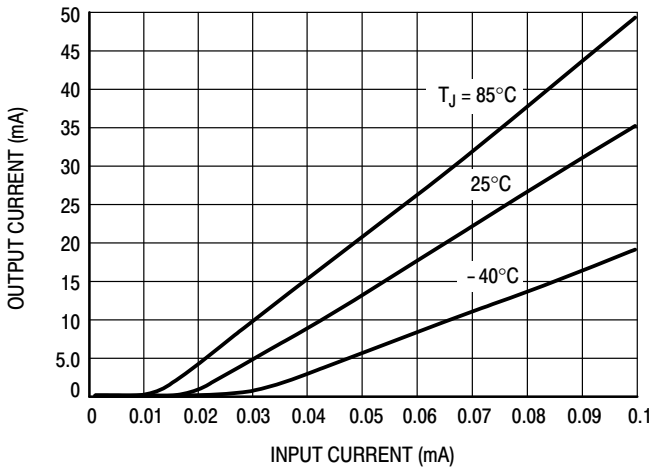

Figure 4. Threshold Effects
- For levels of input current below $100\ \mu\text{A}$, use the input threshold curves of Figure 4 to verify that there will be adequate input current available to turn on the MDC3105 at all temperatures.